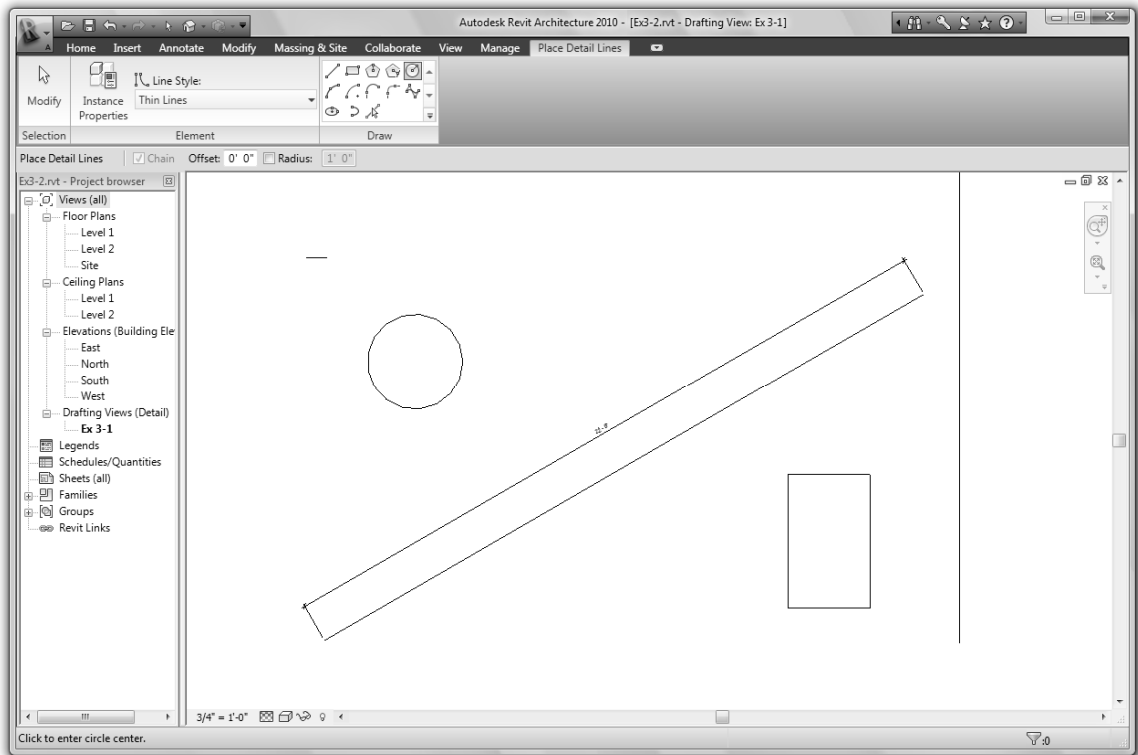

Figure 3-1.17 Drawing with Circle added
47. Type **1 6 5/8 and then press **Enter** (Figure 3-1.17).**